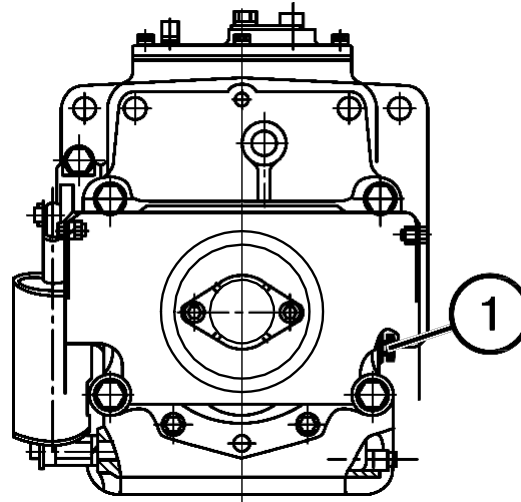

Figure 8.29
**ATTENTION!** Screw in the filter exclusively by hand effort, holding it by the filter cap (1).
**Procedure 23. Checking Oil Level in the Front PTO Reduction Gear-Box (if installed) (fig.8.29)**